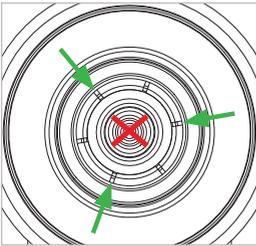

Figure 17
- ▶ Spray once briefly using the small dispensing tube between every second clamping jaw (*Figure 17*).
Attention: The lubricant must not enter the gas channel (*Figure 17*).